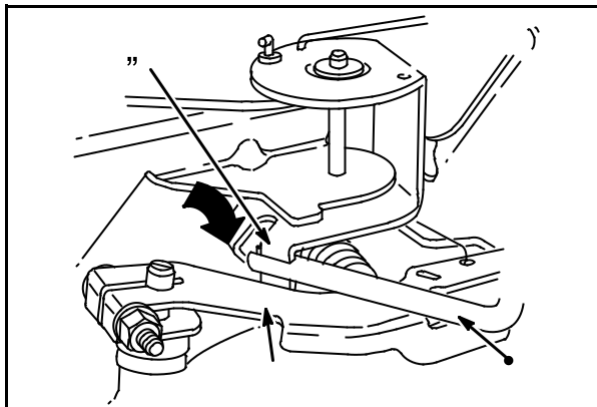

Fig. 33
With equipment control lever in SLOW position and engine running at governed idle RPM, use Tang Bender #19352 (1), to bend throttle restrictor tang (4) so that it just contacts governor lever (5), **Fig. 33**.